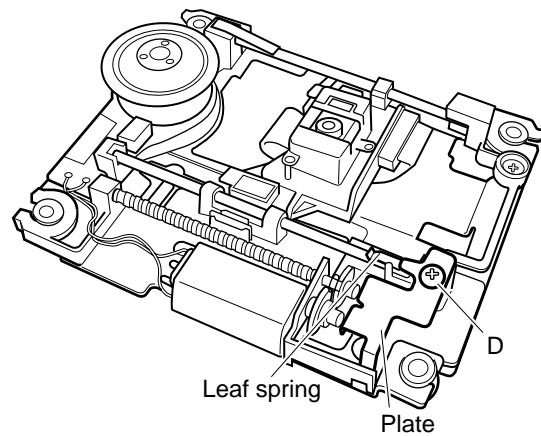
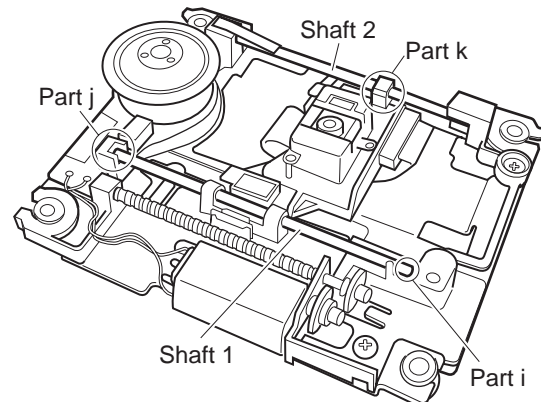

Fig.3-3a
Fig.3-3b
3.3.1 Removing the pickup (See Figure 3-3a, Figure 3-3b)